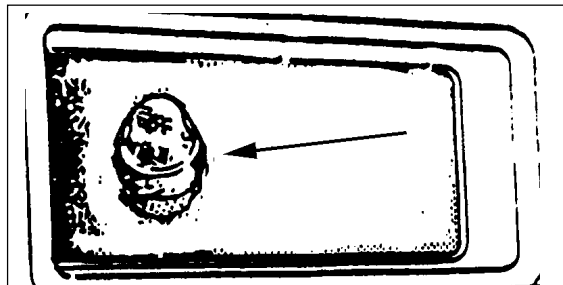

Figure 26
6. Make sure the vacuum screen is clean and in position in the front of the recovery tank. See figure 26.